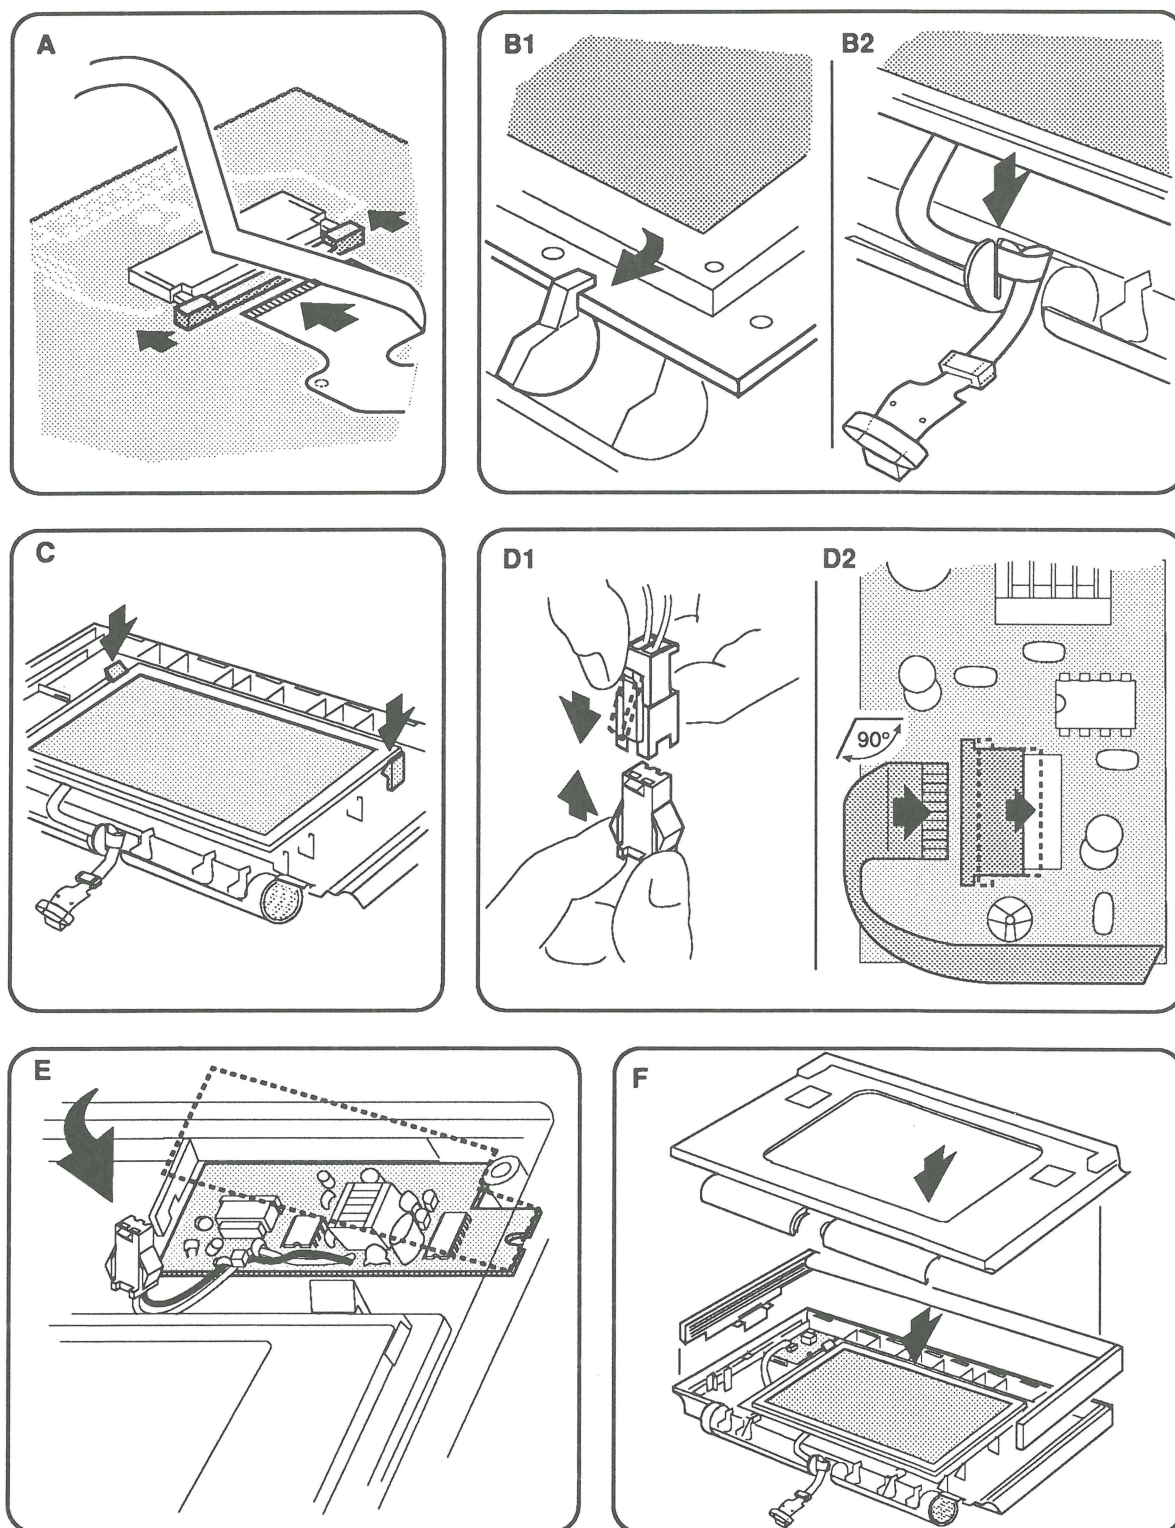

FIGURE 19
1. **Figure 19-A.** Connect the display cable to the display by **gently** sliding the cable into the connector, printed side up. Make sure the cable is fully seated and straight in the connector. Slide the plastic latch toward the connector to secure the cable in place.
2. **Figure 19-B1.** Place the bottom edge of the display into the two plastic clips at the bottom of the display housing.
Note: Figure 19-B2. Make sure the display cable is placed as shown. The cable must lie flat under the display, and the cable must be carefully placed in the channel.
3. **Figure 19-C.** Press down on the corners of the display with your thumbs until it snaps in place.
4. **Figure 19-D1.** Connect the ccfl-lamp-to-inverter-PCA cable.
5. **Figure 19-D2.** Connect the cable from the inverter PCA to the LCD display by **gently** sliding the cable into the connector. Make sure the cable is fully seated and straight in the connector. Slide the plastic latch toward the connector to secure the cable in place. Make sure the cable is bent upward at 90 degrees to the connector as shown in the illustration.
6. **Figure 19-E.** If you are replacing the inverter PCA, peel the paper from the tape on the back of the PCA and place the inverter in position. Press down gently to make sure the adhesive sticks to the display housing.
8. **Figures 19-F.** Place the carrying handle in position in the display housing. The plastic clips should be in the channel at the edge of the housing.
9. **Figure 19-F.** Place the display bezel on the housing as shown in the illustration. You'll need to hold the carrying handle in position.